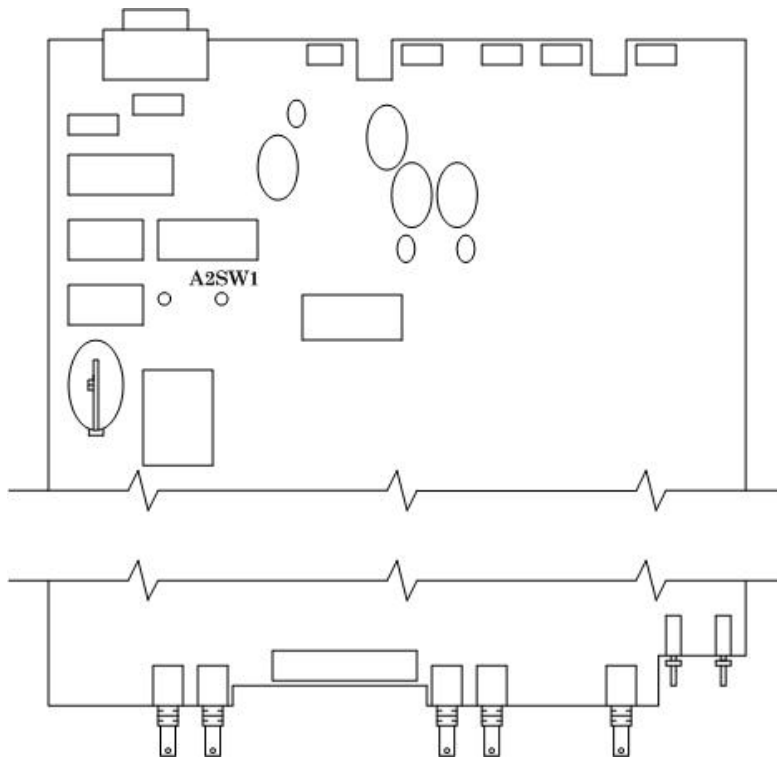
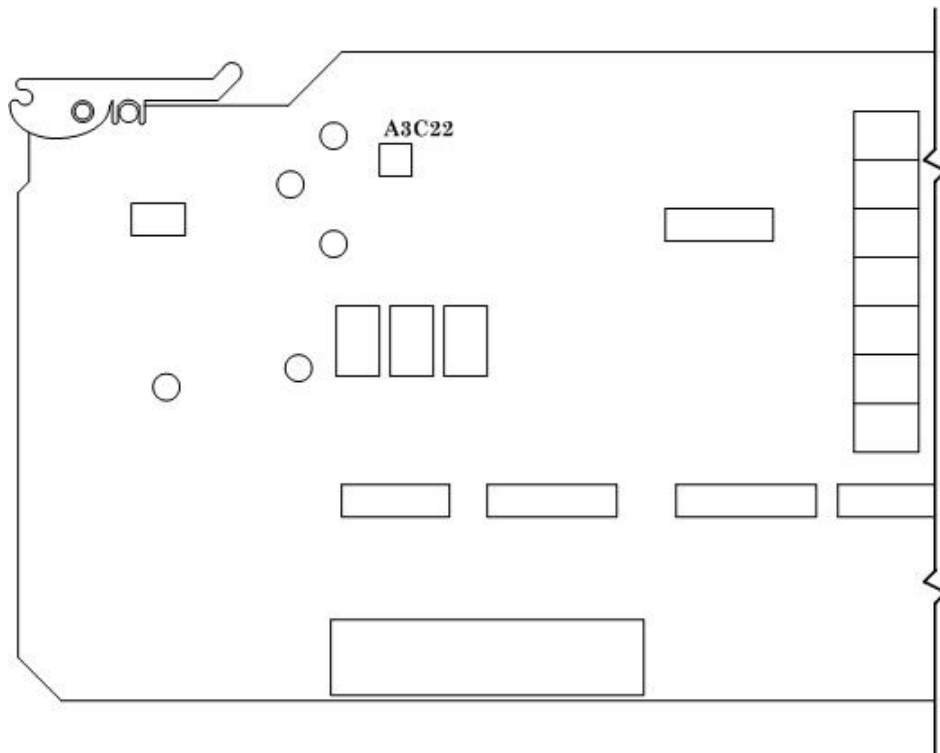
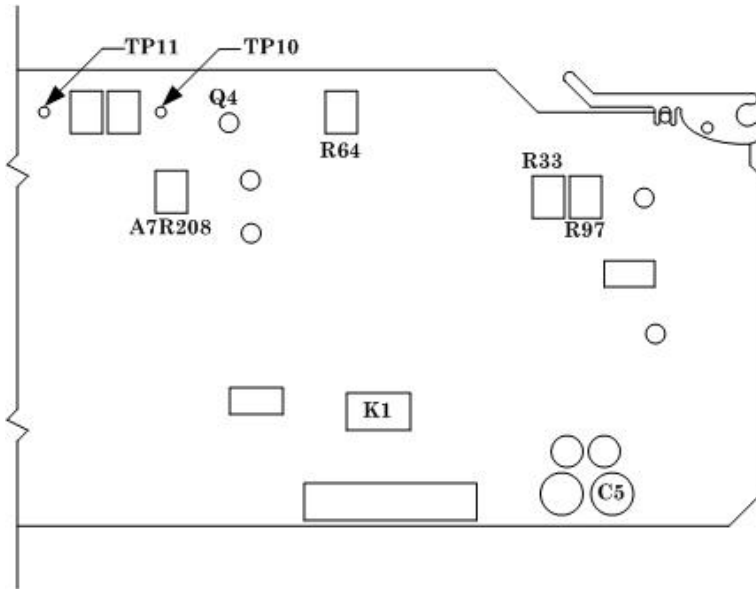

Figure 2. A2 motherboard.
Figure 3. A3 output circuit card adjustment location.
Figure 4. A7 phase lock loop circuit card adjustment location.
(3) Set **POWER** switch to **ON**.
(4) Press and hold (down) A2SW1 (fig. 2) and then press **CALIBRATE** pushbutton.
(5) Observe display indication of **WVTK SN X, XXX, XXX** or **WVTK SN 0**.
(6) Press **CURSOR** { pushbutton and allow enough time for calibrating mode to complete.
(7) Observe display indication of **ARMY SN X, XXX** or **ARMY SN 0**.
(8) Repeat (6) above observing display indication of **PEAKING C22**.
(9) Connect **UNBALANCED** output to oscilloscope **Vertical 1** input, using a 50 Ω feedthrough termination.
(10) Adjust A3C22 (fig. 3) for a peak-to-peak aberration of less than 5.4% displayed on oscilloscope (R).
(11) Press **CALIBRATE** pushbutton and verify display indicates **CALIBRATION OFF**.
(12) Disconnect equipment setup and reinstall top cover.
- (3) Position **POWER** switch to **ON**.
- (4) Press and hold (down) A2SW1 (fig. 2) and then press **CALIBRATE** pushbutton.
- (5) Press **CURSOR** { pushbutton three times and observe display indication of **R33, 97, 64, VSINE XXX**.
- (6) Set TI for 5 V p-p output at 9.8 kHz.
- (7) Connect **SYNC OUT** output to oscilloscope **Vertical 2** input.
- (8) Connect audio analyzer monitor output (rear panel) to oscilloscope **Vertical 1** input and set oscilloscope controls for display of peak distortion.
- (9) Adjust R33 (fig. 4) until waveform peaks are clearly visible in the residue.
- (10) Adjust R97 (fig. 4) until waveform peaks are symmetrical, above and below the average value of the residue signal.
- (11) Adjust R33 (fig. 4) until peaks disappear back into the residue.
- (12) Observe the overall ripple in the residue in the area of the waveform zero crossings as displayed on the oscilloscope. Adjust **CONTROL** knob cw for clearly visible peaks displayed on oscilloscope and repeat (11) above.
- (13) Repeat technique of (11) and (12) above until minimum overall ripple is displayed on oscilloscope.
- (14) Connect **MULTIMETER** + lead to TP 10 (fig. 4) and - lead to TP 11 (fig. 4) and adjust R64 (fig. 4) for display of <1 mV dc.
- (15) Press **CALIBRATE** pushbutton and verify display indicates **CALIBRATION OFF**.